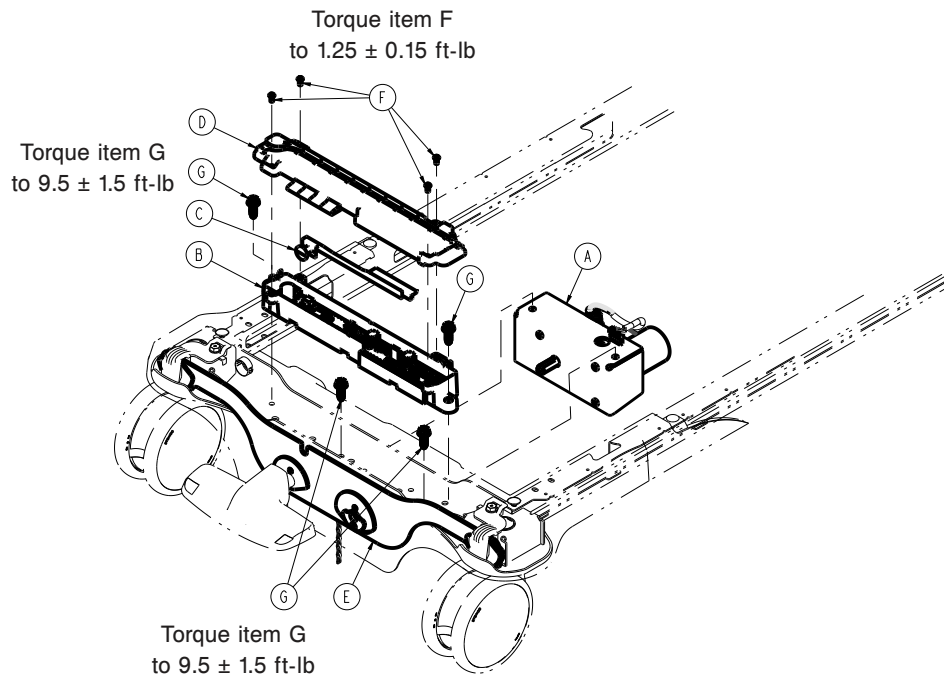

Figure 32 – Electric brakes option
6. Using a T10 Torx driver, remove the four screws (F) that secure the brake control board top enclosure (D) to the brake cam enclosure assembly (Figure 32). Remove and save the top enclosure. Save the screws.
10. Using a ratchet and 1/2" socket, remove the two bolts (G) that secure the brake cam enclosure assembly to the base frame (Figure 32). Save the bolts.
10. Using a ratchet and 1/2" socket, remove the two bolts (G) that secure the brake cam enclosure assembly (B) to the base frame (Figure 32). Lift up out of the way.
11. Using a ratchet and 1/2" socket, remove the two bolts (G) that secure the brake motor assembly (A) to the base frame (Figure 32). Pull the motor assembly toward the foot end to remove.